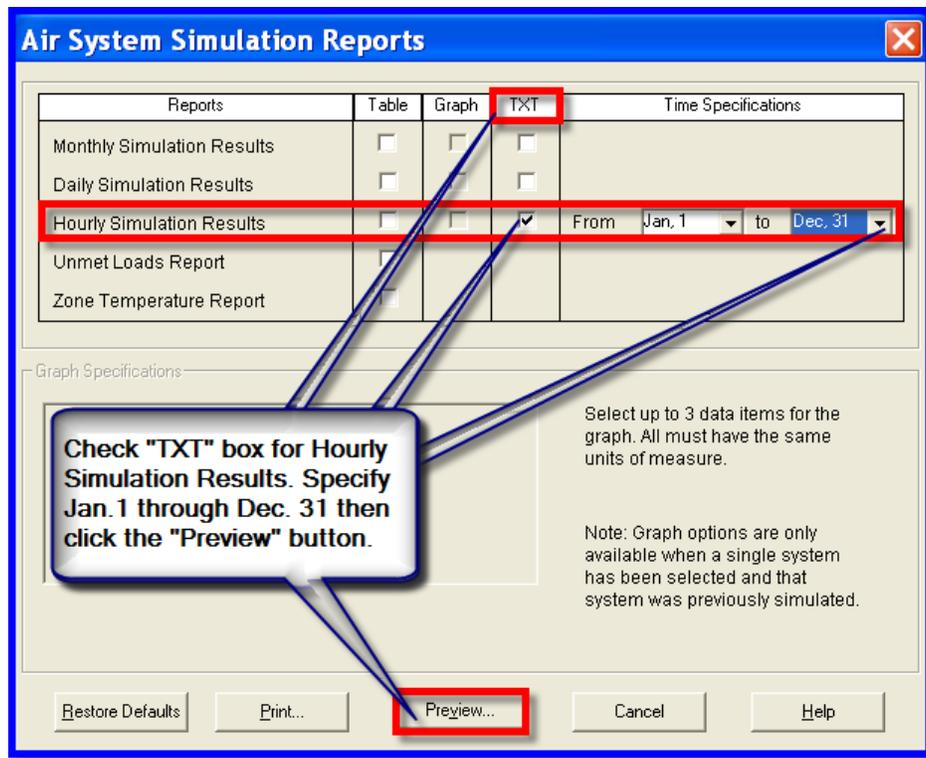

Figure 1
2. In the Air System Simulation Reports window (Figure 1), place a check in the "TXT" column opposite "Hourly Simulation Results". To the right of this check box specify the start and stop days for the data to be exported. In this example we will export the full year of data and therefore choose January 1 and December 31 as the start and stop points.